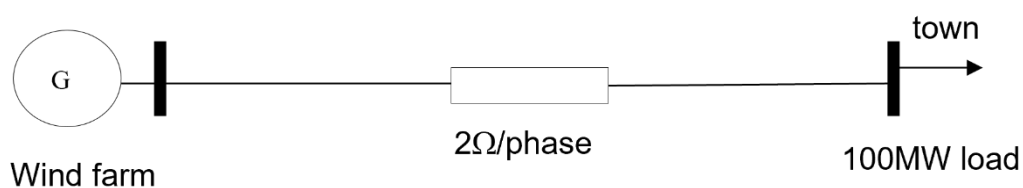

Figure 1 – Wind generator connected to a small town
- A planner would like to install a new wind farm to feed a town that takes 100MW of load as shown in Figure 1. Explain from first principles using load flow analysis, if it is feasible for the planner to supply this load at 11kV. [9 marks]